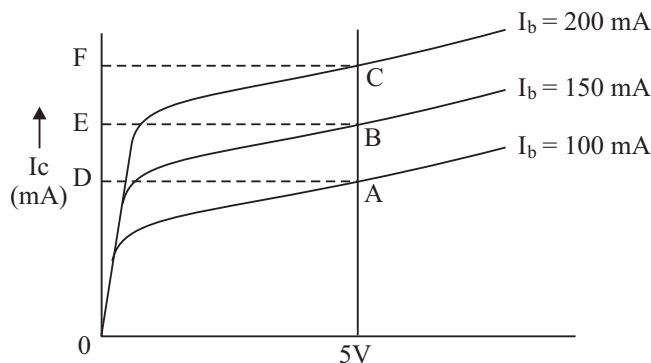

Fig. 27.7
- (iii) Plot graphs from the data recorded in above three tables. The graphs obtained and shown in fig. 27.7. These are the characteristics of CL100 in CE mode. At low V_{ce} a fraction of charge carriers injected into the base region are collected by the collector and hence I_c is small. As V_{ce} increases more and more carriers get collected, hence I_c rises rapidly. When all the carriers have been collected I_c becomes nearly constant. This explains the shape of the characteristics curves.
- (iv) To find the current amplification factor β of the transistor draw a vertical line perpendicular to V_{ce} axis at say -5V point. Let it cut the three curves at A, B and C as shown in Fig. 27.7. Now from points A, B and C draw perpendiculars on the I_c axis. Let these meet the axis at points D, E and F as shown in Fig. 27.7.
- (iv) From your experimental curves (Fig. 27.7) find out how will β change with V_{ce} .